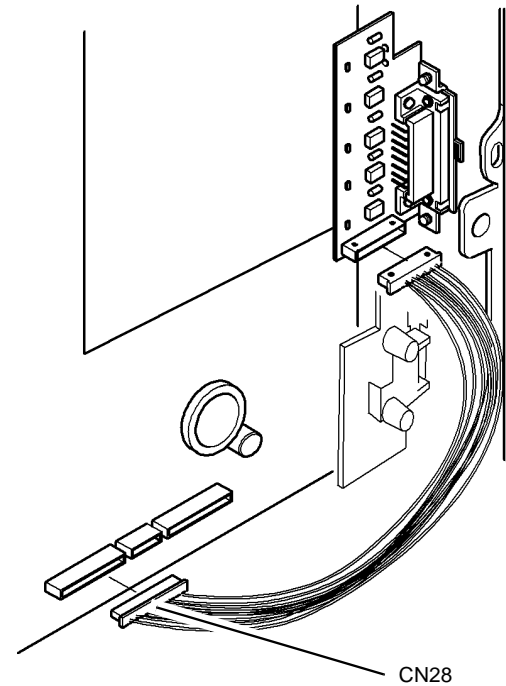

Figure 3 Harness install
8. Connect the foreign device interface harness. Connect the harness to CN28 on the main PWB, Figure 3.